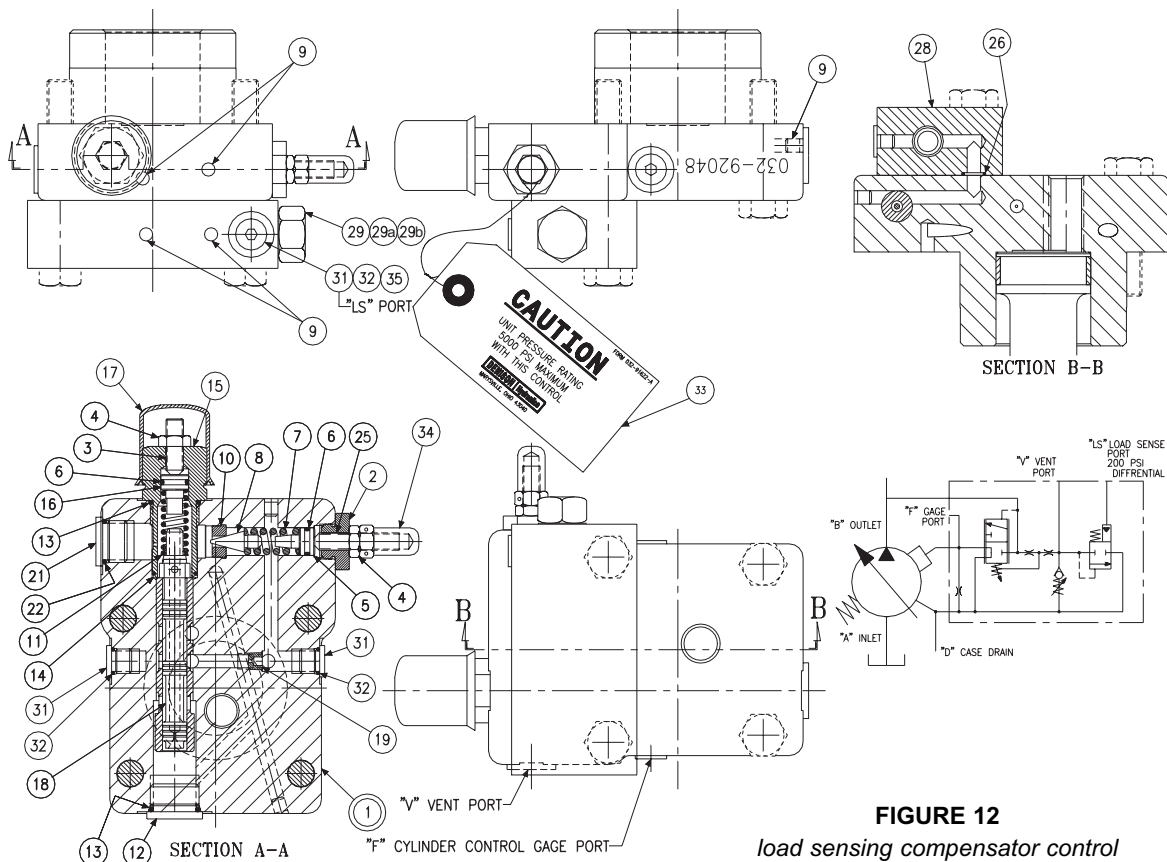

FIGURE 12
PARTS LIST FOR FIGURE 12
1. See Figure 12 Back off maximum volume screw or handwheel to full displacement. Remove maximum volume assembly.
3. Remove isolation valve (29) from block (28). Remove plug (15) and attached parts. Remove spring (11) and spool (18).
4. Remove adjusting plug (2) and attached parts. Remove seal piston (5). Note: a 10-24 screw may be used to assist in pulling the piston. Remove spring (7) and cone (8).
5. Do not remove sleeve in body (1). Sleeve is pressed into cap and finished to size. If sleeve or cap is worn, replace the cap-sleeve assembly (1).
6. Examine seat (10) for wear. Do not remove unless damaged.
Ref. Figure 12